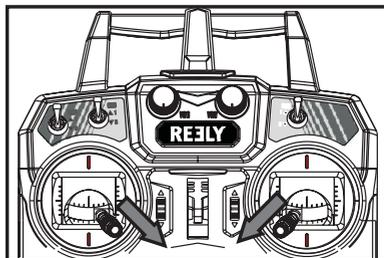

Figure 23
- Move the left control stick to the lower right and at the same time the right control stick to the lower left (see figure 23).